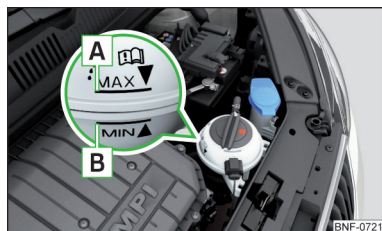

Fig. 110
Check the coolant level - The coolant level must lie between the marks **A** and **B** » Fig. 110. If the coolant level is below the mark **B**, top up with coolant.
The **specification** for the coolant is shown in the coolant expansion reservoir » Fig. 110.
- Do not fill the coolant above the mark **A** » Fig. 110. The coolant could, when heated, be expelled from the cooling system - risk of damage to the engine parts.